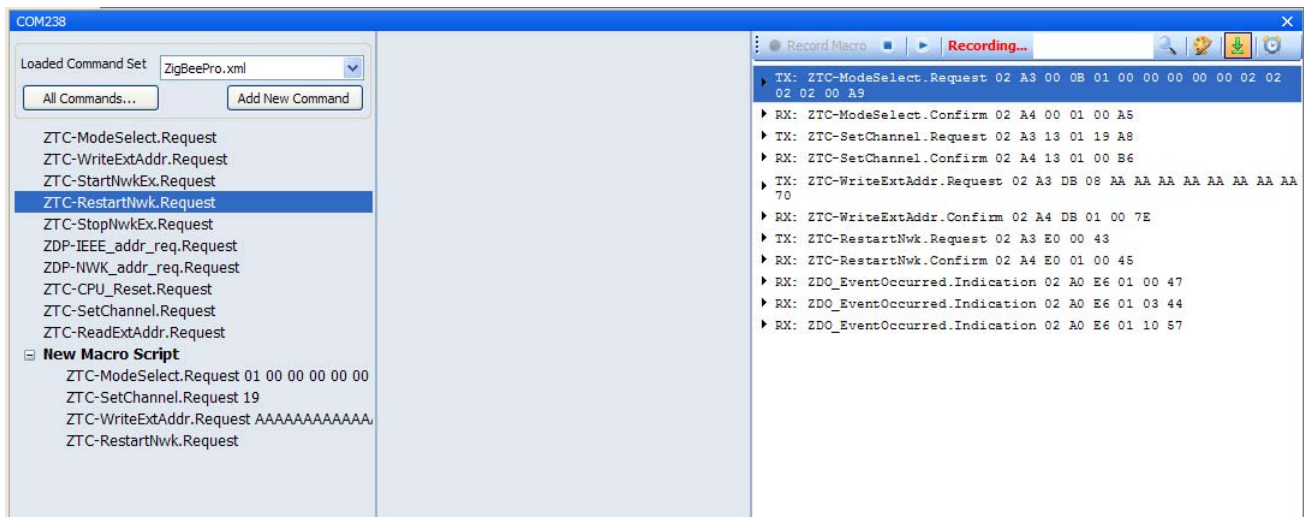

Figure 2-33. Macro Recording in the Command List
4. As commands are sent, a macro entry is added to the Command List and the commands are added to it as shown in Figure 2-33.